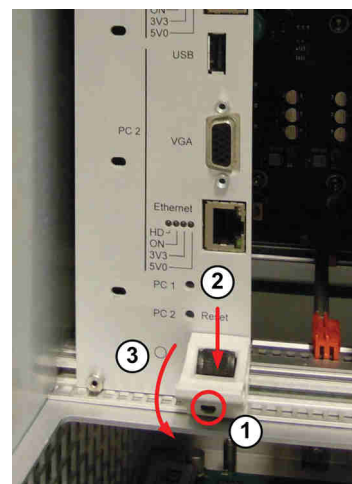

Fig. 7.28 Handle
- 3 Using tools 1/4 or tool 9. loosen the screws in the upper and lower handle, marked with 1 in Fig. 7.28 \(p. 131\) - these two screws are fixing the module to the frame.
Release the two handles (upper handle and lower handle) by pushing the black button into the handle - marked as "2" in Fig. 7.28 \(p. 131\). While doing this simultaneously on the two handles, move the upper handle upwards and the lower handle downwards ("3"). This will pull the module out of the connector.